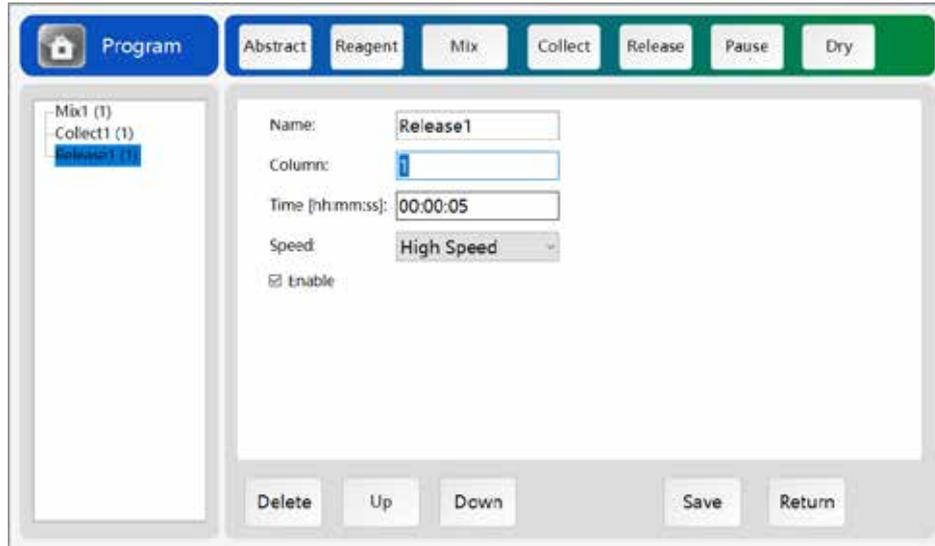

Figure 4-14 Dry
**Dry:** This function is to take the magnetic rod sleeve out of the liquid and to dry the liquid on the surface of the magnetic rod sleeve, as shown in Figure 4-14.